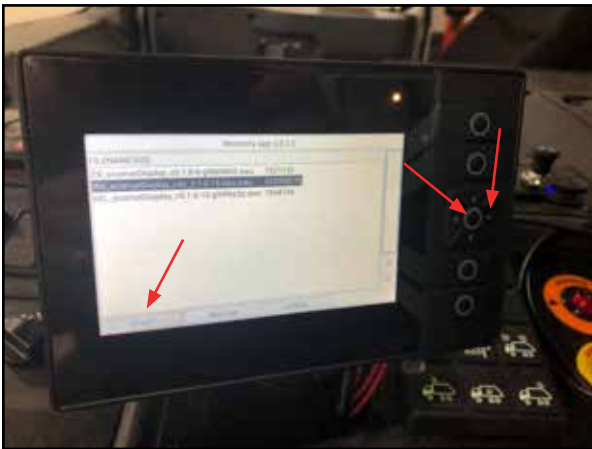

Figure 17
8. Push the **right arrow button** on the display button pad to select **START** on the display screen and then push OK to begin the installation (Figure 17).